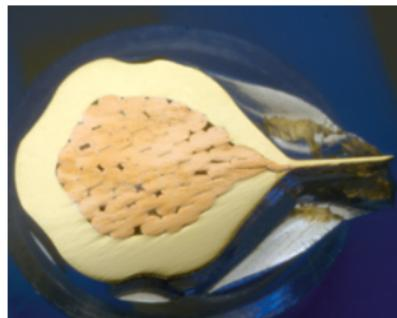

Figure V-3: Micro-section of a defective sample with cracks, extreme asymmetry
- Unsymmetrical formation of the cross-sectional area (Figure V-3)